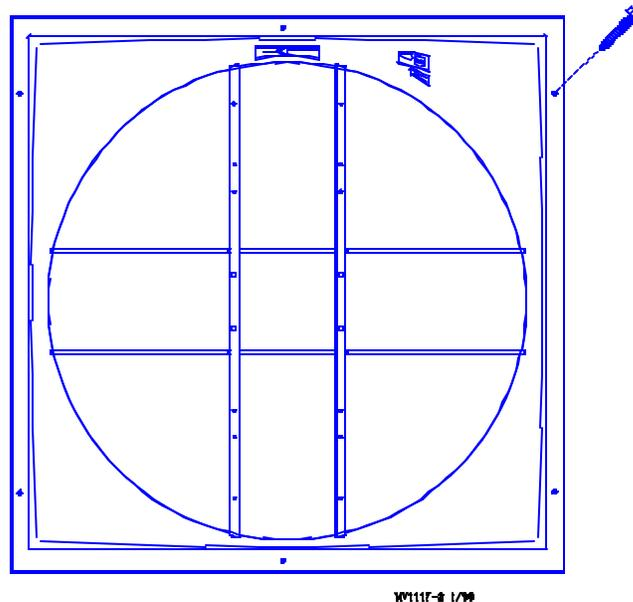

Figure 4. Fan installation (front view).
The Hardware Kit, supplied, includes (12) #8 screws to secure the fan to the framed opening. See Figure 4.